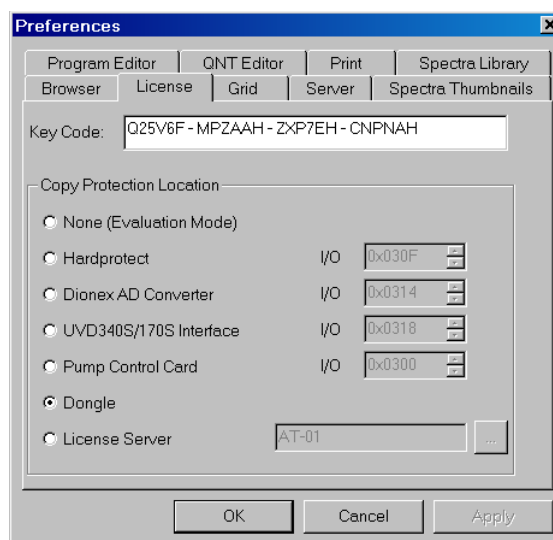

Figure 11. Chromeleon License
3. Click the **Preferences** button and select the **License** tab (see Figure 11).